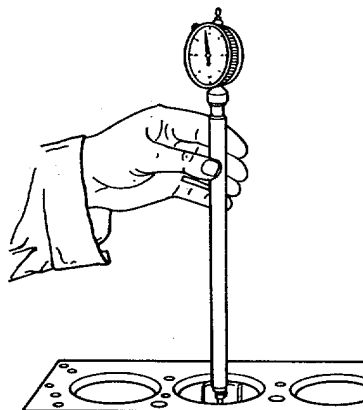

Figure 5-26. Cylinder Bore Check.
- (1) The cylinder sleeves (6) fitted to the cylinders are centrifugally cast alloy iron. They are an interference fit in the cylinder block parent bore and of the thinwall dry type. Reboring of these sleeves is not possible. New sleeves should be fitted when a rebore would normally be considered necessary.
- (2) Dimensional checks of the cylinder bore are carried out using the gage tool as shown in Figure 5-26. When checking sleeves (6), each one should be measured in three positions: top, center and bottom. The readings being taken parallel and at right angles to the center line of the cylinder block give six readings for each cylinder bore. When checking the fitted internal bore of a new thinwall sleeve, allow a period of time to elapse for the sleeve to settle.
- (3) Remove all the various components from the cylinder block.